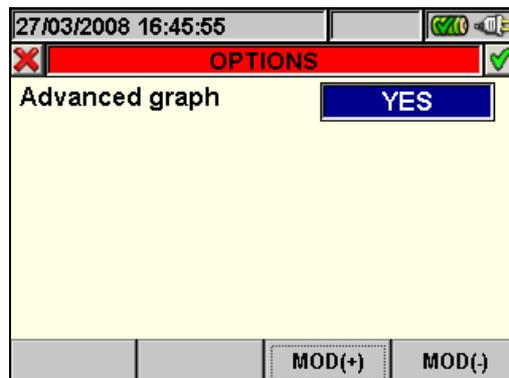

Fig. 159: Options (Advanced graph)
- **F4** key (or **OPTIONS** item on the display) to access the page for the activation of the “Advanced graph” (Fig. 159).
2. Press the **F4** key (or the **OPTIONS** item on the display) to access the page for the activation of the Advanced graph (Fig. 159).